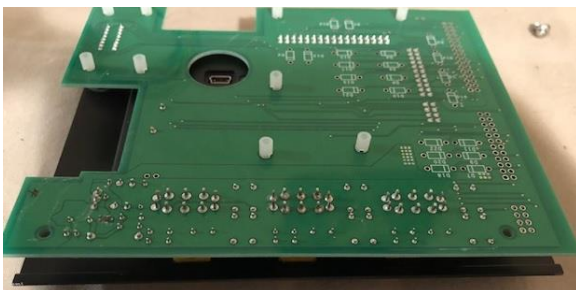

Figure 235
3. Remove the circuit board by firmly pulling up on the board. Make sure that you do not crack the board. Figure 235